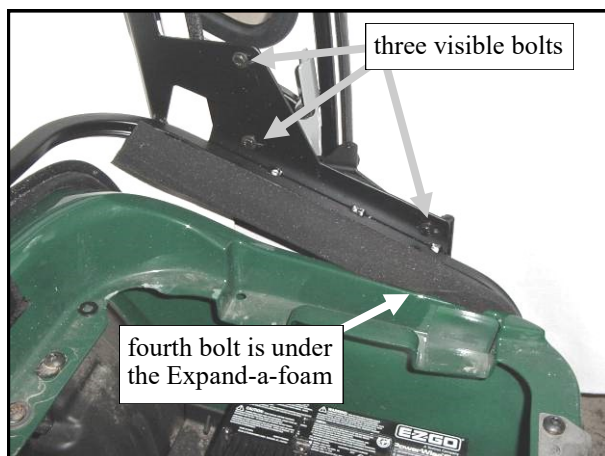

Fig. 11.2 (view taken from passenger's side)
11.2 If further adjustment of the door is required, the hinge location can be modified. Remove the seat as shown in fig. 11.2. Loosen the four hinge bolts. From the inside, pull the door grab handle and hold while retightening the four hinge bolts. Reinstall the seat.